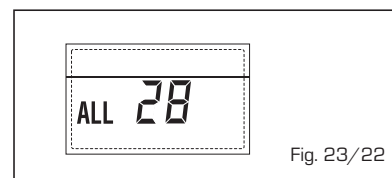

Fig. 23/22
– **ANOMALIA NUMERO SCHEDINI COLLEGATI “ALL 29” (fig. 23/23)**